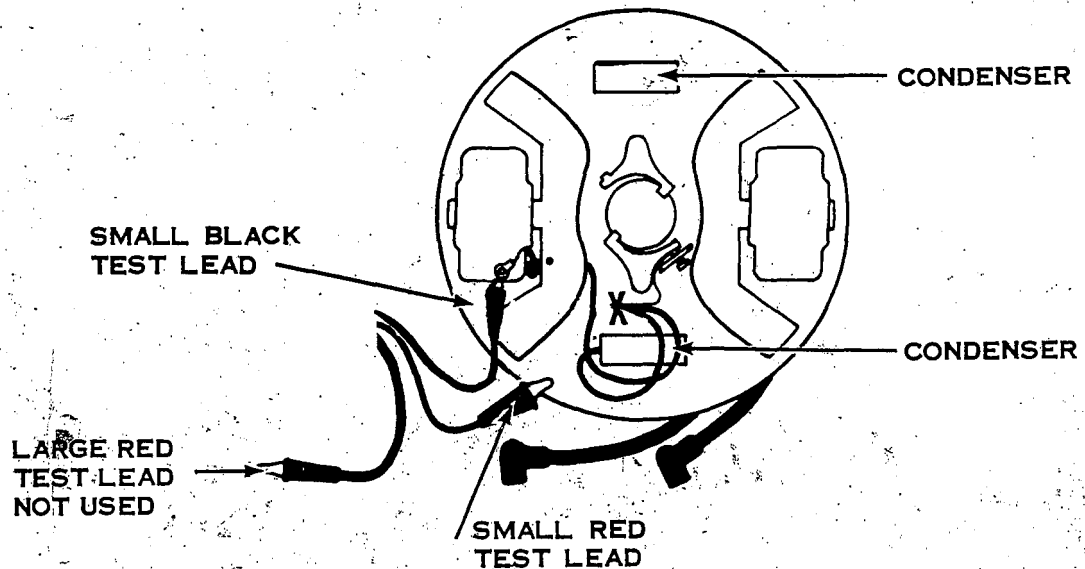

Figure 10
2. Remove small red test lead from high tension wire and connect it to ground or frame of stator plate. (See wiring hookup, Fig. 10.)
6. If there is a meter pointer hand movement to the right, indicating a grounded coil, remove the breaker point terminal screw at "X" on diagram Fig. 10.